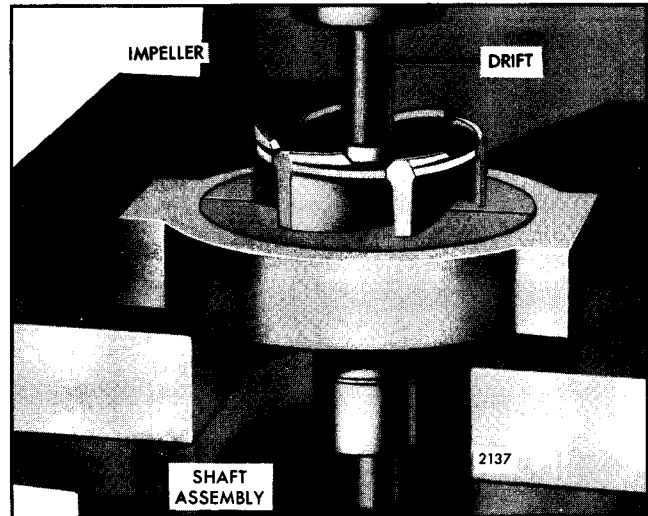

Fig. 7 - Removing Shaft from Impeller with Tools J 8329 and J 358-1
4. Use plates J 8329 and holder J 358-1 to press the shaft out of the impeller (Fig. 7).